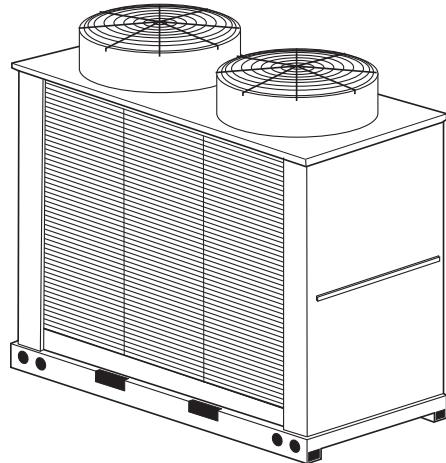

Fig. 4 — Sound Reduction Kit Installed
Step 7 — Mount the fan shroud/grille assembly on the fan deck using eight 1/4-14 x 5/8 in. screws. Figure 4 shows the sound reduction kit installed on a 2-fan unit.